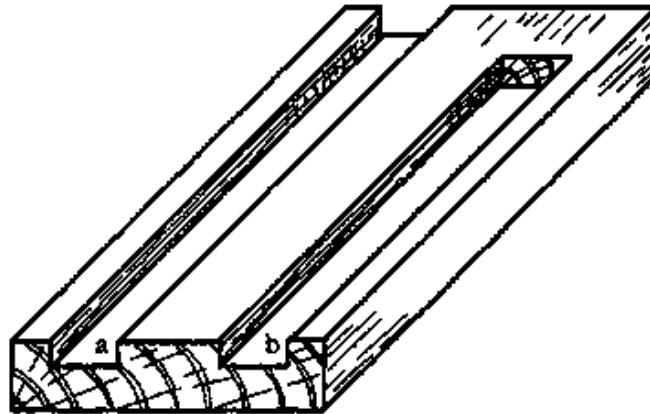

Fig. 3
- GROOVE: This is a recess cut along the grain. A “through” groove runs the whole length of the piece (Fig. 3, a); while a “stopped” groove is stopped at one or both ends (Fig. 3, b).